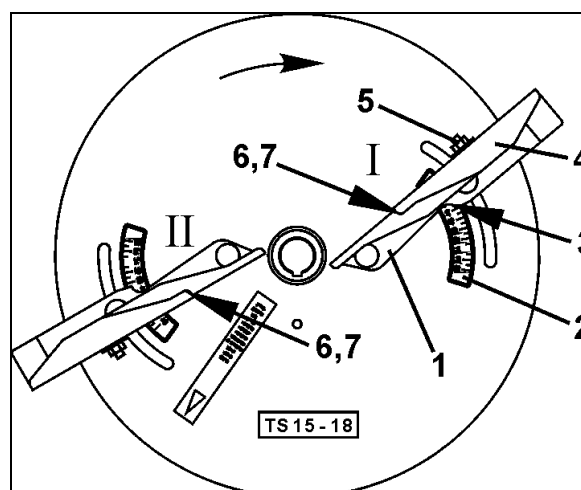

Fig. 66
1. Set reading line (Fig. 66/7) of blade "I" to letter value "**B**" and fix outer vane part.
2. Set reading line (Fig. 66/7) of blade "II" to figure value "**E**" and fix outer vane part.